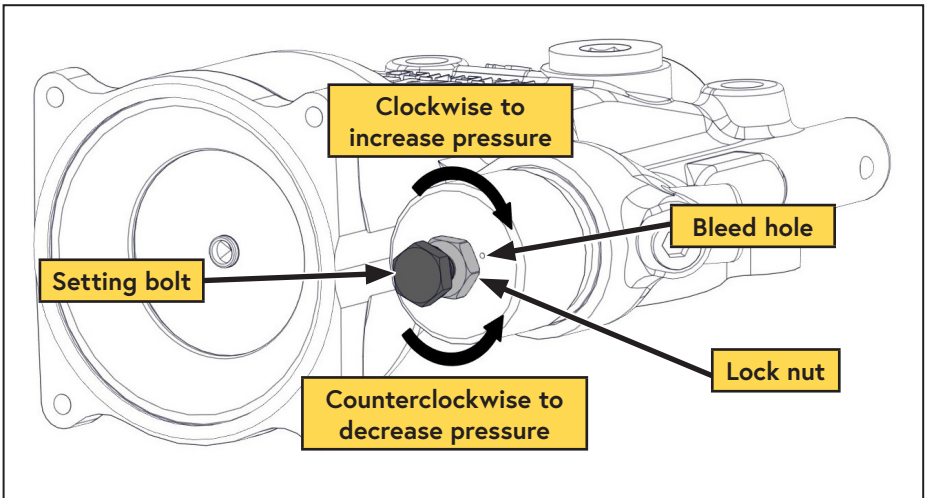

Figure 4 — Adjusting the pressure regulator
- ☐ Rotate the setting bolt clockwise to increase pressure, rotate the setting bolt counterclockwise to decrease pressure (Figure 4).